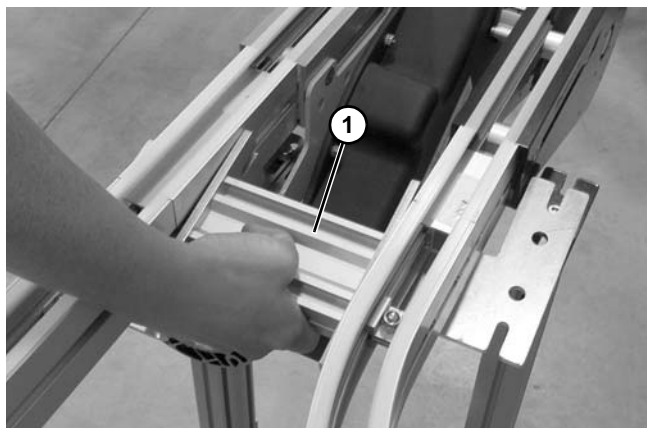

Figure 179
3. Tilt the crossmember (Figure 179, item 1) down and back. Remove the crossmember from the conveyor.